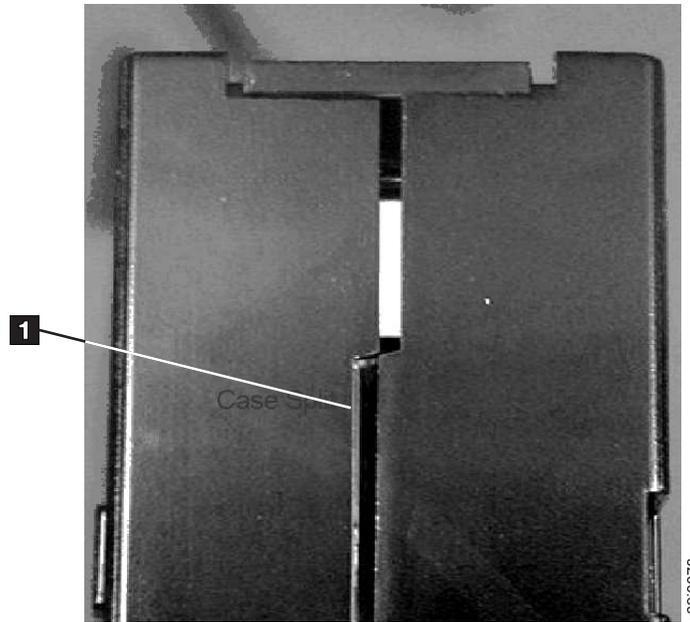

Figure 49. Gap in cartridge seam
3. Inspect the rear of the cartridge (the part that you load first into the tape load compartment) and ensure that there are no gaps in the seam of the cartridge case. (Refer to **1** in Figure 49 on page 249. If there are gaps in the seam, the leader pin may be dislodged and may need to be repositioned.)